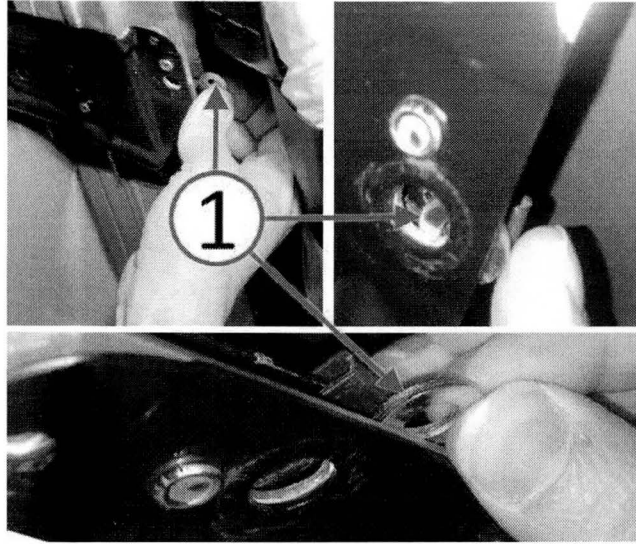

Fig. 3 Shim Sunroof Module
8. At location where fastener was removed in previous step, slide one 2.0 mm (0.08 in.) thick washer into position between the sunroof module and the roof reinforcement so that the hole in the washer aligns with the hole in the sunroof module and U-clip nut in the roof reinforcement (Fig. 3).